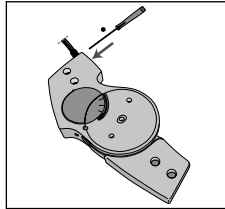

Fig. 8
7. Loosen the Cone Point Safety Screw on the side of the joint, two turns will do (**see Fig. 8**). Do not remove the screw from the joint.
18. Tighten the Cone Point Safety screw back in the joint (see Fig. 8).